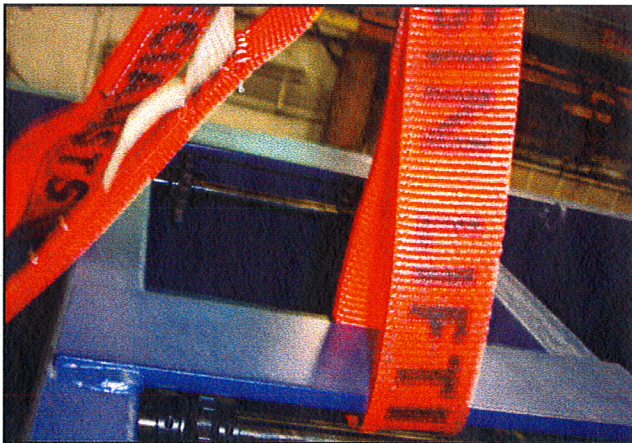

Figure 2
2. Lift top section by middle plate (make sure straps go around plate only, not sprocket shaft) or around channels. See Figures 2 and 3.